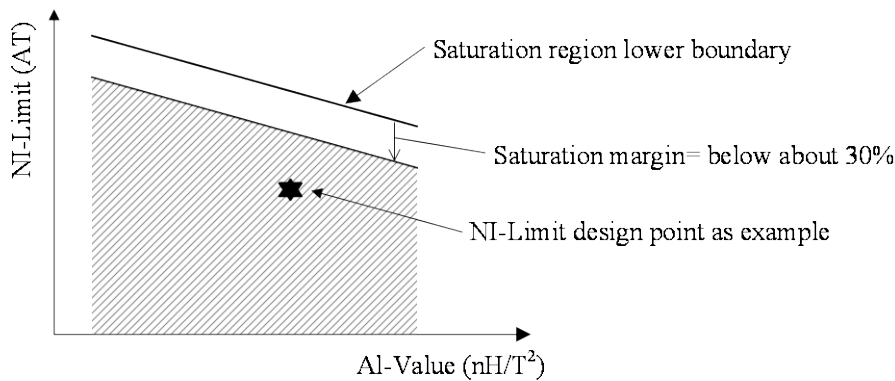

Figure 9-2. Example of NI-Limit vs. AL-Value Characteristics
In transformer design, AL-value and N_P must be set in a way that the ferrite core does not saturate. Here, use ampere turn value (AT), the result of $I_{DP} \times N_P$ and the graph of NI-Limit (AT) versus AL-value (Figure 9-2 is an example of it). NI-Limit is the limit that the ampere turn value should not exceed; otherwise the core saturates.
When choosing a ferrite core to match the relationship of NI-Limit (AT) versus AL-value, it is recommended to set the calculated NI-Limit value below about 30% from the NI-Limit curve of ferrite core data, as shown in the hatched area containing the design point in Figure 9-2, to provide a design margin in consideration of temperature effects and other variations.